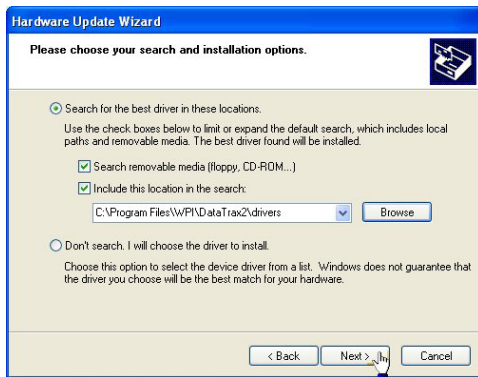

Fig. 59—Search locations
8. Select the **Install from a list or specific location** radio button, and click the **Next** button. Then, then wizard asks where to search for the install files (Fig. 59).